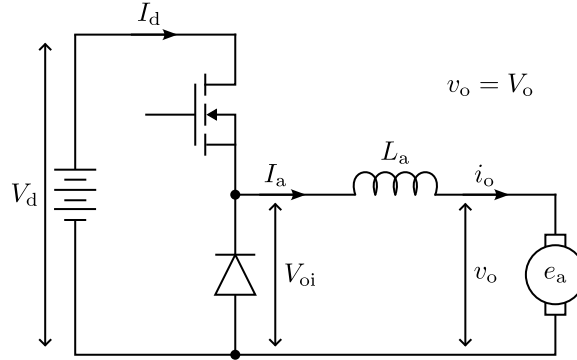

Figure 1: Step-down DC-DC converter.
2. The switched dc-dc step-down converter shown in Figure 1 controls a dc machine with an armature inductance  $L_a = 0.2$  mH. The armature resistance can be neglected. The armature current  $i_o$  is 5 A. The switching frequency  $f_{sw} = 30$  kHz and the duty cycle,  $D = 0.8$ . Consider all the components to be ideal.